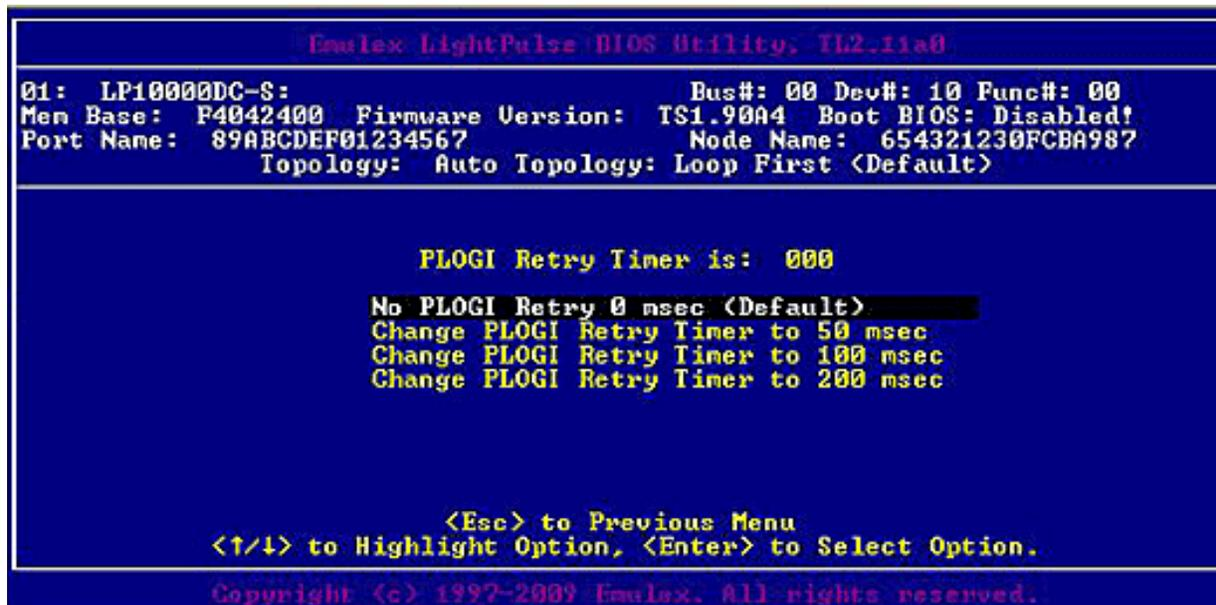

Figure 11: Change the PLOGI Retry Timer screen
2. Select **Change PLOGI Retry Timer**. Information similar to Figure 11 is displayed.